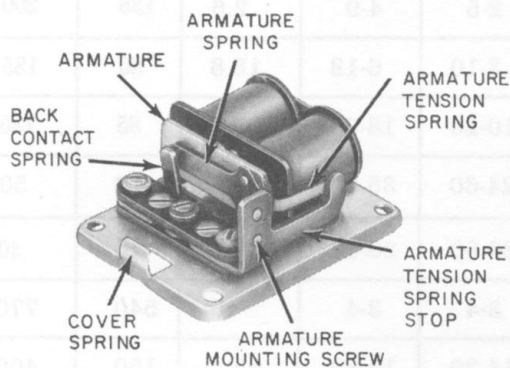
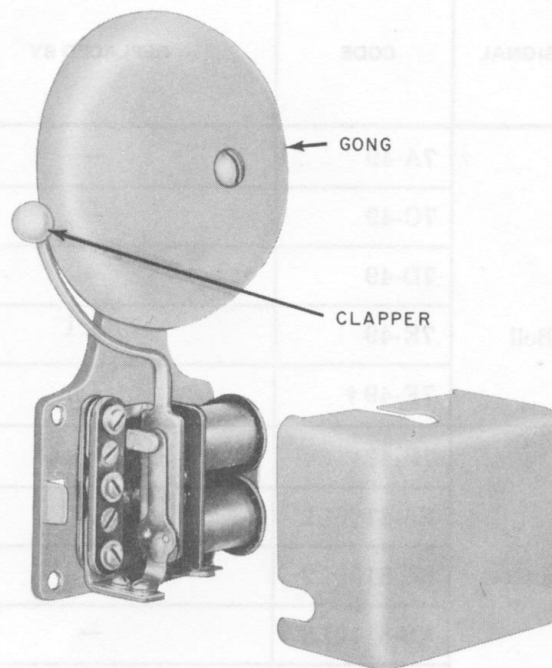

Fig. 1—7F Buzzer
Fig. 2—7-Type Bell
2.06 The 7F buzzer (A&M Only) (Fig. 1) and the 7-type bell (Fig. 2) have the same design features except the bell is equipped with a clapper and 3-inch gong.
2.09 The gong of the 7-type bell (Fig. 2) has its mounting hole drilled off-center. The eccentricity of the mounted gong provides for adjustment of the bell's volume by rotating the gong to increase or decrease the travel distance between the clapper and the gong.
(e) The 7F buzzers (Fig. 1) may be mounted in any position. A preferable position for mounting on vertical surfaces is with armature hanging vertically from hinged end to reduce amount of dust settling on contacts.